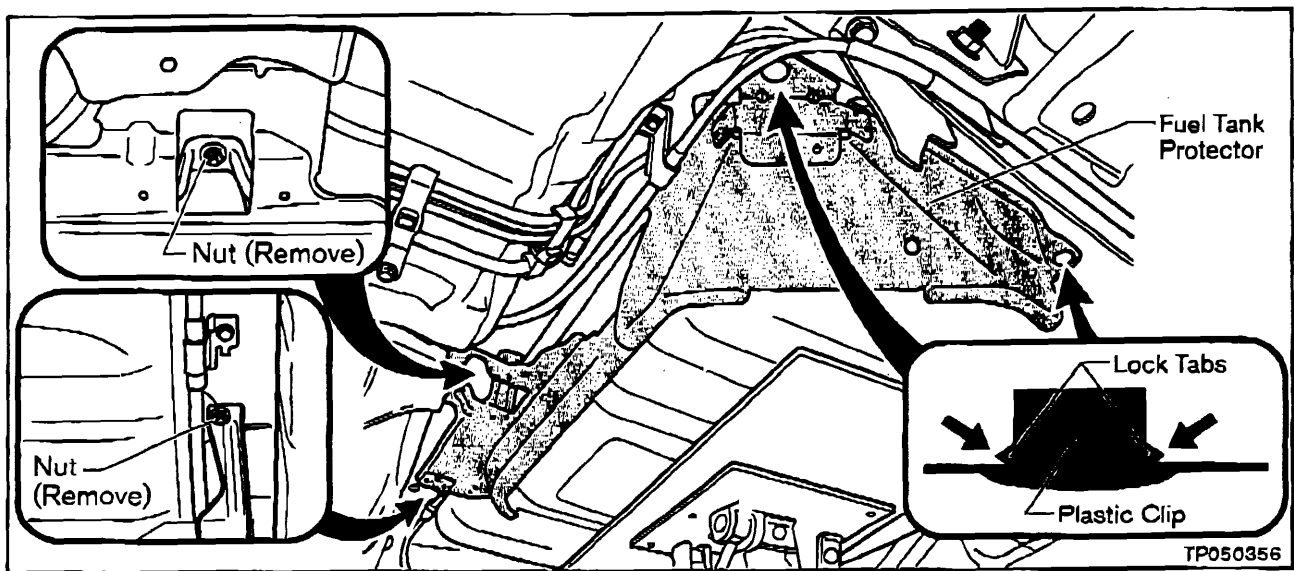

Figure 8
13. Lower the Fuel Tank 3 inches. Then remove two Nuts and two Plastic Clips that hold the Fuel Tank Protector (see Figure 8). Remove the Protector.
- To remove the Plastic Clips, press IN on the Lock Tabs (see Figure 8).